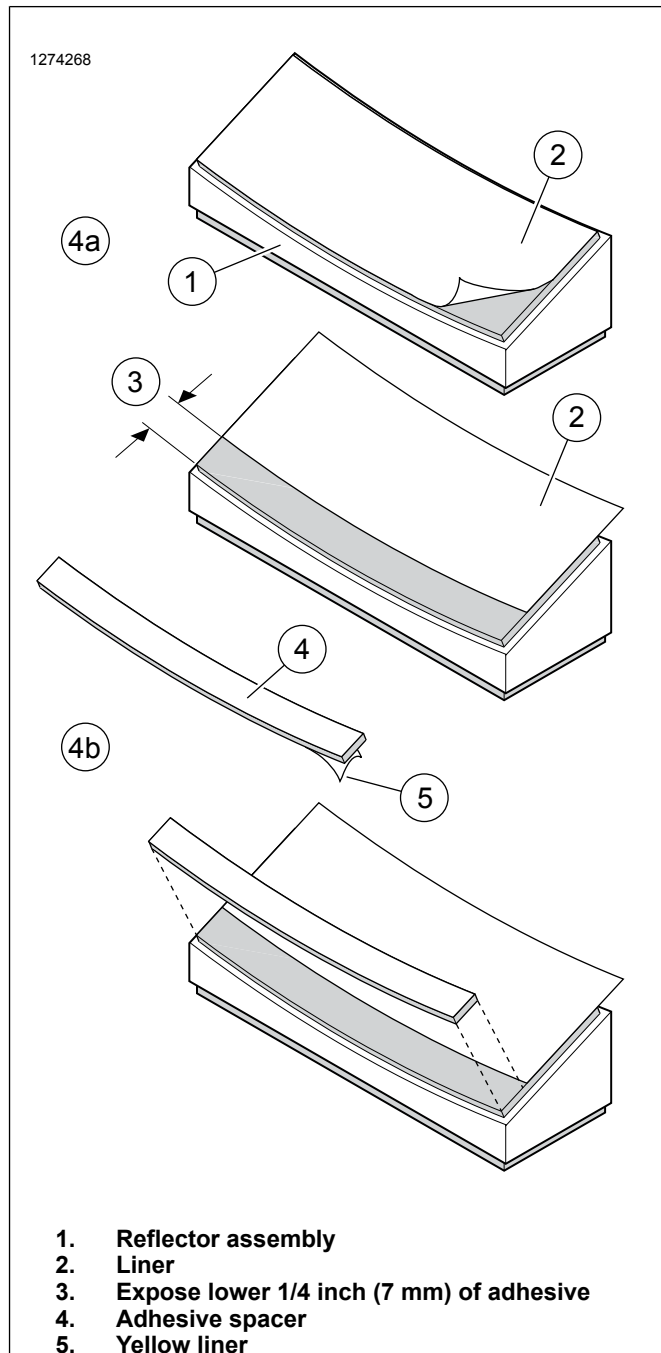
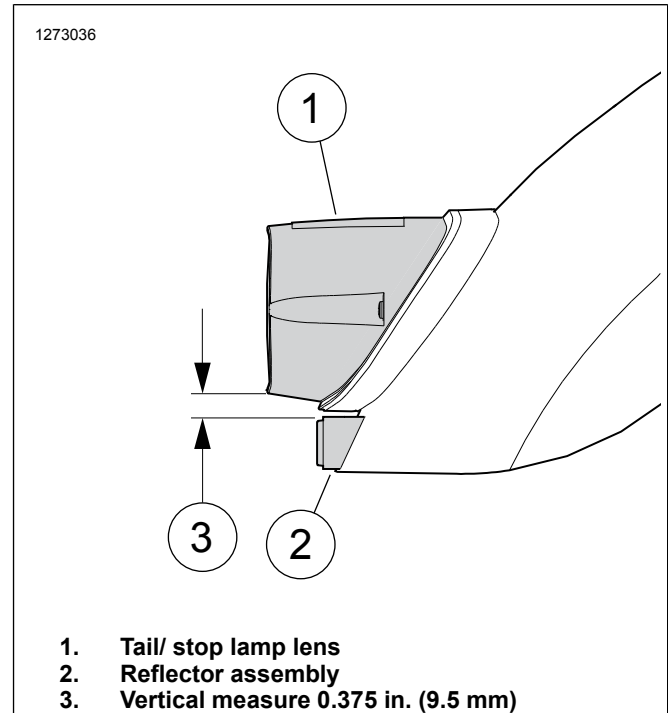

Figure 2. Installing Adhesive Spacer To Reflector (center-mount models only)
Figure 3. Reflector Mounting
4. See Figure 2. The adhesive spacer (4) must be added to the back of the reflector to position the reflector at the correct angle for optimal visibility.
- a. Peel the liner (2) from the adhesive surface of the reflector assembly (1). Re-position the liner to expose the lower 1/4 inch (7 mm) of adhesive (3).
- b. Peel the yellow liner (5) from the adhesive spacer (4). Carefully position the spacer to the exposed adhesive surface of the reflector assembly, and press firmly into place.
- b. Use a straight-edge to find a location on the fender as indicated in the view in Figure 3 for your model motorcycle. Do not follow the curve of the fender, but measure straight down. Make a horizontal mark on the fender at this location.